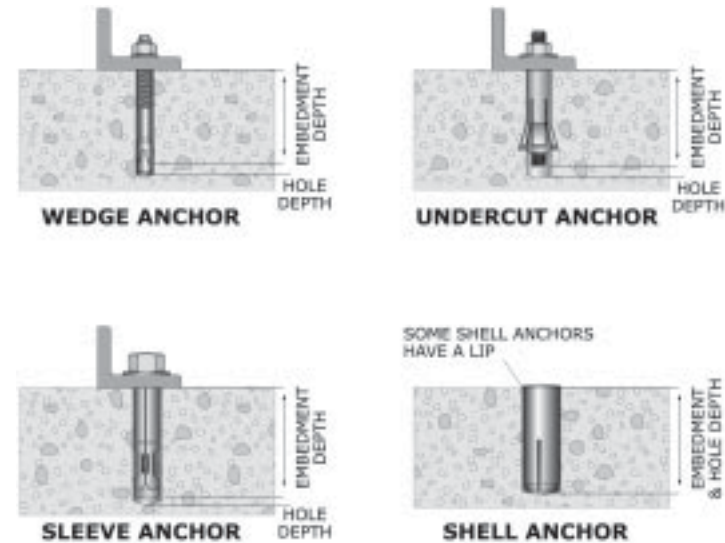

Figure 129: Embedment depth and hole depth of four anchor types.
**The required hole depth may be different from the embedment depth. See Figure 129 (page 107).**